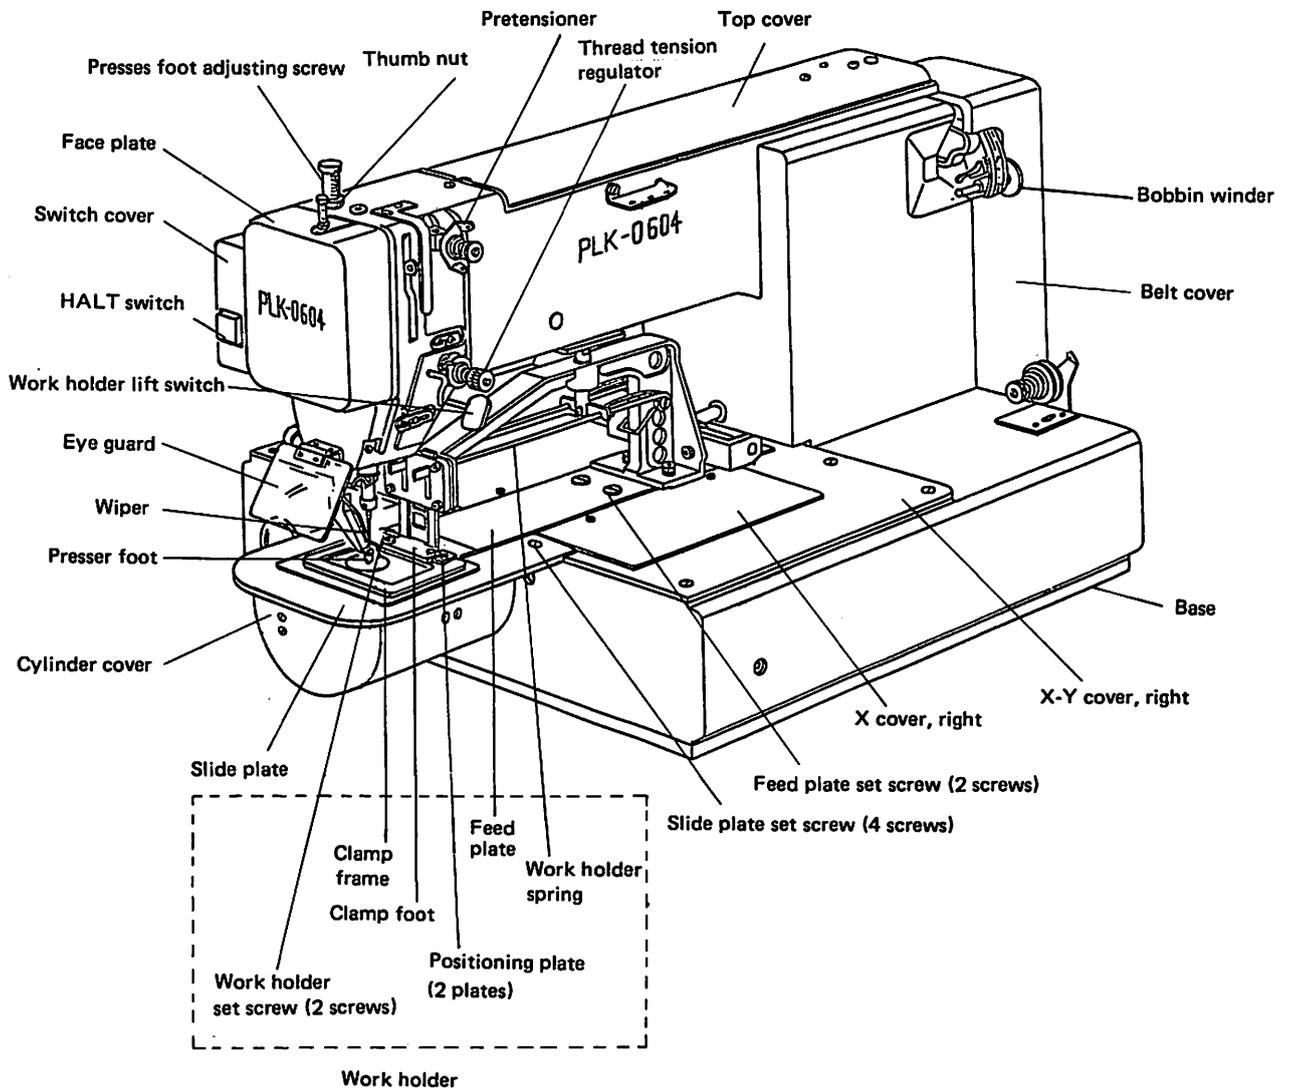

Fig. 8.1
- (1) To replace the clamp frame, remove the set screws (Fig. 8.1), remove the clamp frame and install other clamp frame.
- (2) When replacing the clamp frame, do not loosen the positioning plate. Clamp frame can be accurately installed by referring to the positioning plate.
- (3) If oil in the hook is excessive, remove the left cover, and one of two oil braid from the oil reservoir.
- (4) Remove the X covers (left and right) and feed plate, shown in Fig. 8.1, and apply several drops of oil to the retainer shown in Fig. 10.27 at least monthly.